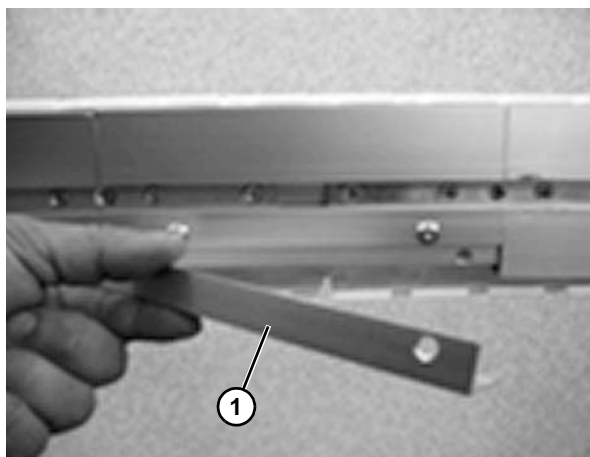

Figure 55
2. Remove the flange (**Figure 55, item 1**) so that the chain becomes accessible.